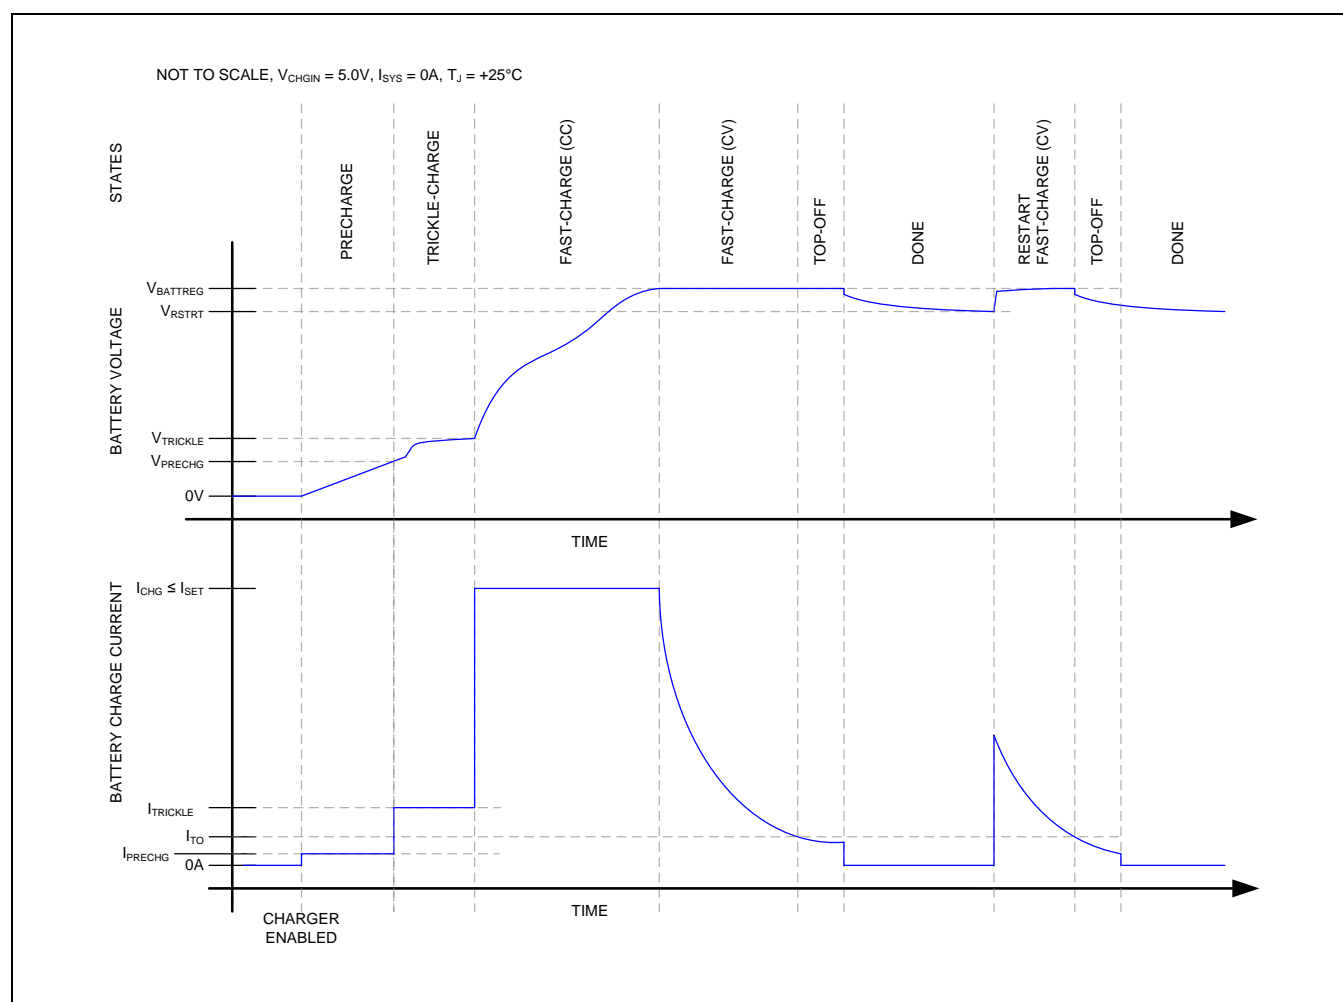
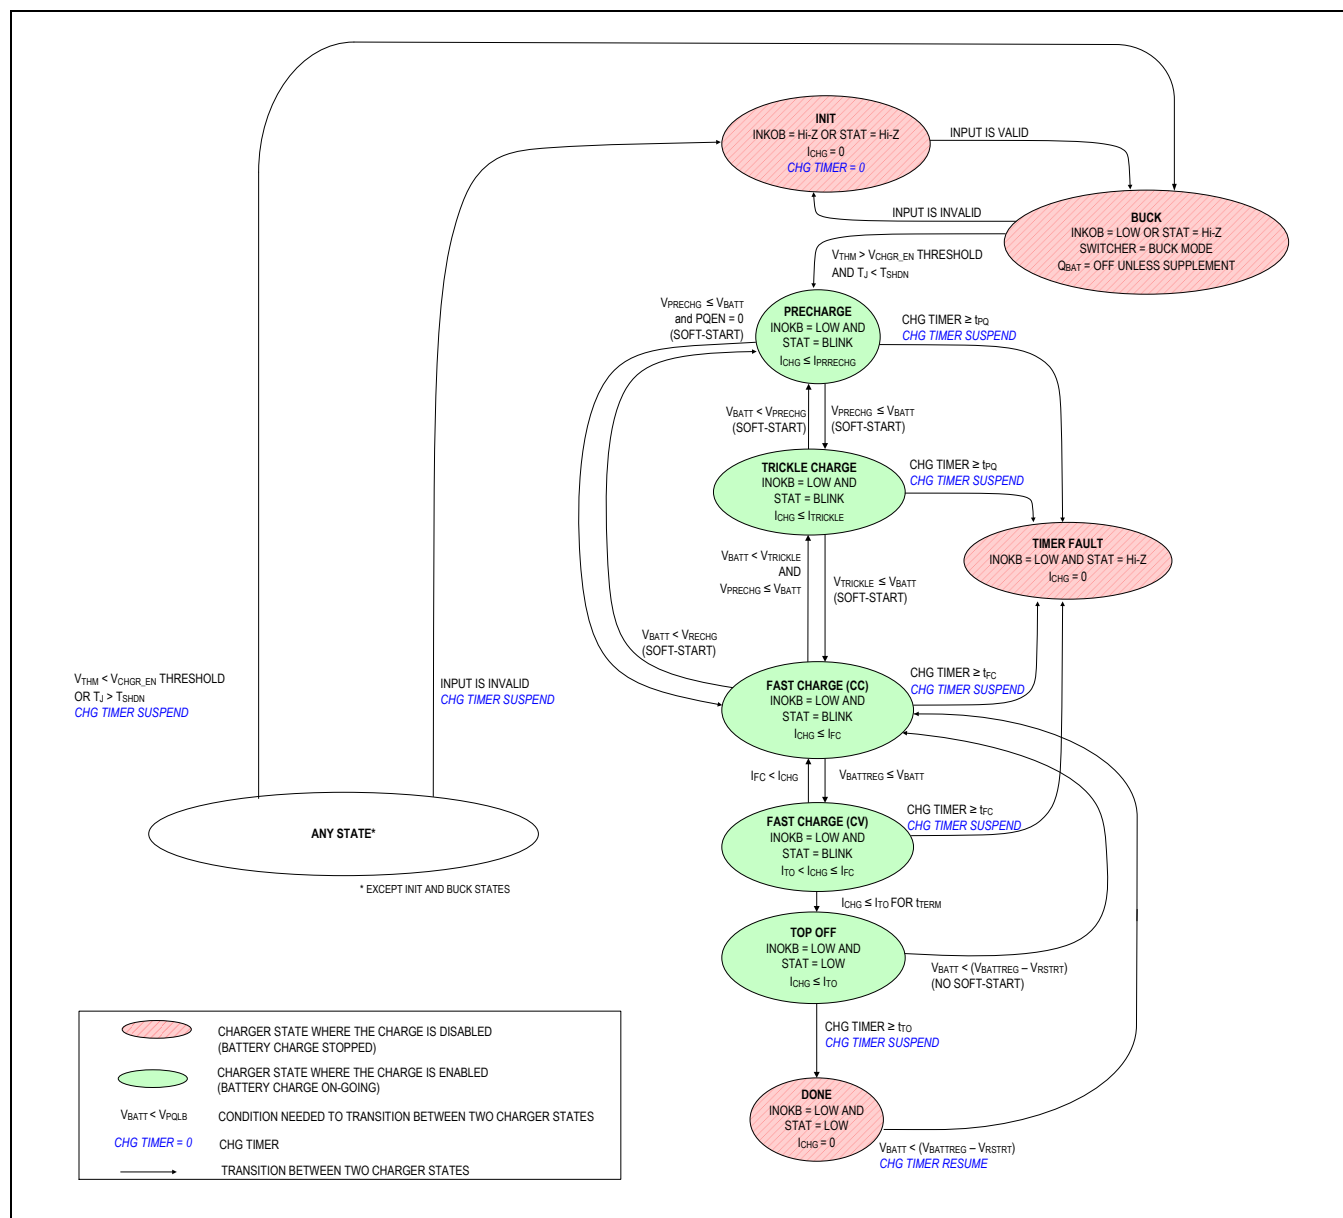

Figure 5. Li+/Li-Poly Charge Profile
Figure 6. Li+/Li-Poly Charger State Diagram
The MAX77757 utilizes several charging states to safely and quickly charge Li+/Li-Poly batteries as shown in Figure 5 and Figure 6. Figure 5 shows an exaggerated view of the Li+/Li-Poly battery progressing through the following charge states when there is no system load and the die and battery are close to room temperature: precharge → trickle → fast-charge → top-off → done.
In the buck state, battery charging is disabled while the charger input CHGIN is valid. Entering or leaving the buck state is controlled by the voltage of the THM pin. If the voltage of this pin is pulled down by an external device (e.g., MCU) under  $V_{CHGR\_EN}$ , the chip goes to the buck state from any state if CHGIN is valid as shown in Figure 6. Charging is disabled in the buck state, which means  $Q_{BAT}$  is off unless it is in supplement mode. If the voltage of this pin is over  $V_{CHGR\_EN}$ , the chip leaves the buck state and resumes charging. It should be noted that it is only when CHGIN is valid that charging can be enabled or disabled. Therefore, the external device (e.g., MCU) should check the INOKB signal if CHGIN is valid before trying to enable or disable charging.
As shown in Figure 6, the precharge state occurs when the main battery voltage is less than  $V_{PRECHG}$ . In the precharge state, charge current into the battery is  $I_{PRECHG}$ .
The trickle charge state occurs when  $V_{BATT} > V_{PRECHG}$  and  $V_{BATT} < V_{TRICKLE}$ , as shown in Figure 6.
As shown in Figure 6, the fast-charge constant current (CC) state occurs when the main-battery voltage is greater than the trickle threshold and less than the battery regulation threshold ( $V_{TRICKLE} < V_{BATT} < V_{BATTREG}$ ).
As shown in Figure 6, the fast-charge constant voltage (CV) state occurs when the battery voltage rises to  $V_{BATTREG}$  from the fast-charge CC state.
In the fast-charge CV state, the battery charger maintains  $V_{BATTREG}$  across the battery and the charge current is less than or equal to  $I_{FC}$ . As shown in Figure 5, charger current decreases exponentially in this state as the battery becomes fully charged.
As shown in Figure 6, the top-off state can only be entered from the fast-charge CV state when the charger current decreases below  $I_{TO}$  for  $t_{TERM}$ . In the top-off state, the battery charger tries to maintain  $V_{BATTREG}$  across the battery and typically the charge current is less than or equal to  $I_{TO}$ .
As shown in Figure 6, the battery charger enters the done state after the charger has been in the top-off state for  $t_{TO}$ .
The battery charger provides a charge timer to ensure safe charging. As shown in Figure 6, the charge timer prevents the battery from charging indefinitely. The time that the charger is allowed to remain in each of the prequalification states is  $t_{PQ}$ . The time that the charger is allowed to remain in the fast-charge CC and CV states is  $t_{FC}$ . Finally, the time that the charger is in the top-off state is  $t_{TO}$ . Upon entering the timer fault state, STAT becomes Hi-Z.
In the timer fault state, the charger is off. The charger input can be removed and re-inserted to exit the timer fault state (See the “any state” bubble in the lower left of Figure 6).
As shown in Figure 6, the thermal shutdown state occurs when the battery charger is in any state and the junction temperature ( $T_J$ ) exceeds the device’s thermal-shutdown threshold ( $T_{SHDN}$ ). When  $T_J$  is close to REG, the charger folds back the input current limit to 0A so that the charger and inputs are effectively off.